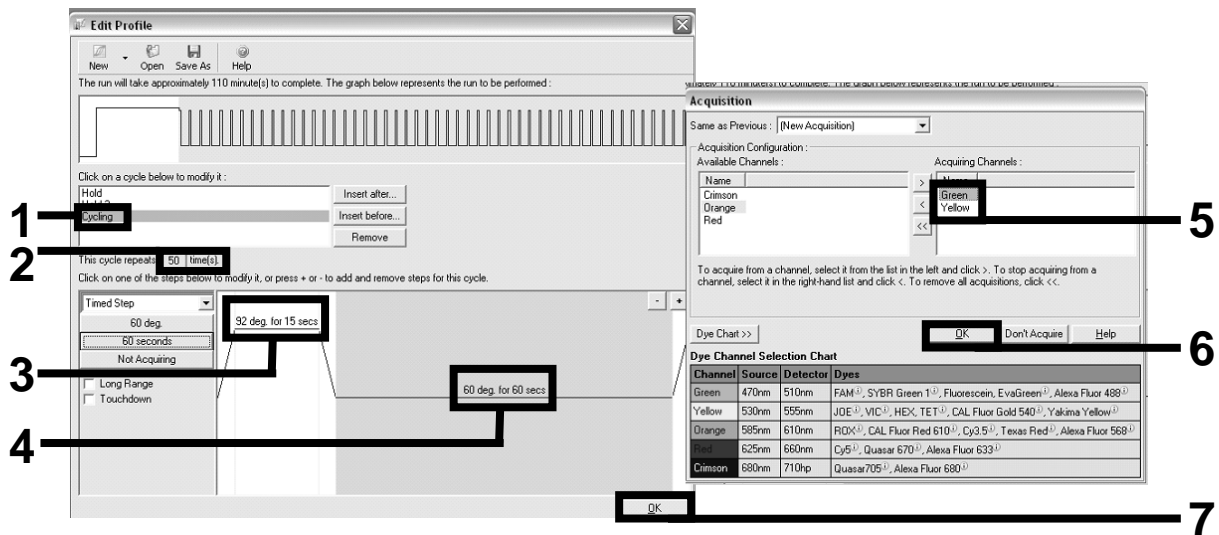

Figure 5. Amplification of the DNA.
Amplification of the DNA	Figure 5
13. Click the “Edit Profile” button in the next “New Run Wizard” dialog box, and program the temperature profile as shown in Table 3 and Figure 5. Be sure to add the last acquiring step at 60°C, at each cycle, for both channels Green (FAM) and Yellow (VIC).